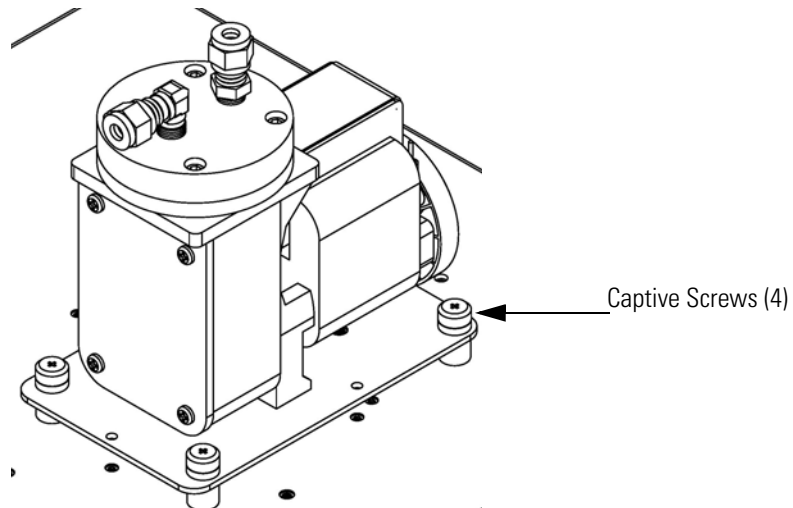

Figure 7-6. Replacing the Pump
Use the following procedure to replace the pump (see Figure 7-6). To rebuild the pump, see “Pump Rebuilding” in the “Preventive Maintenance” chapter.
4. Loosen the four captive screws (Figure 7-6) securing the pump and remove the pump.